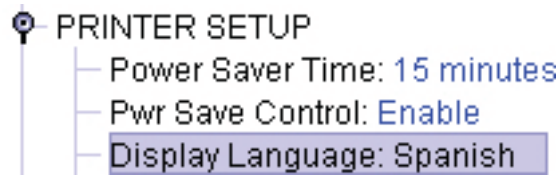

Figure 57 Toggling Through The Available Options
- Double-click an item to open the Menu Editor (page 67) for that item, or use the < and > keys to toggle through the available options. See Figure 57. (You may change these keys in the printer database window: select **File ► Preferences**, then click the **Configuration Editor** tab. See page 28).